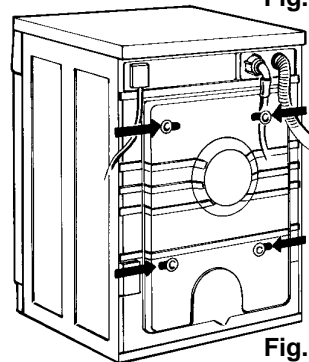

Fig. 2
1. Slacken the four bolts with the spanner supplied (Fig. 2).